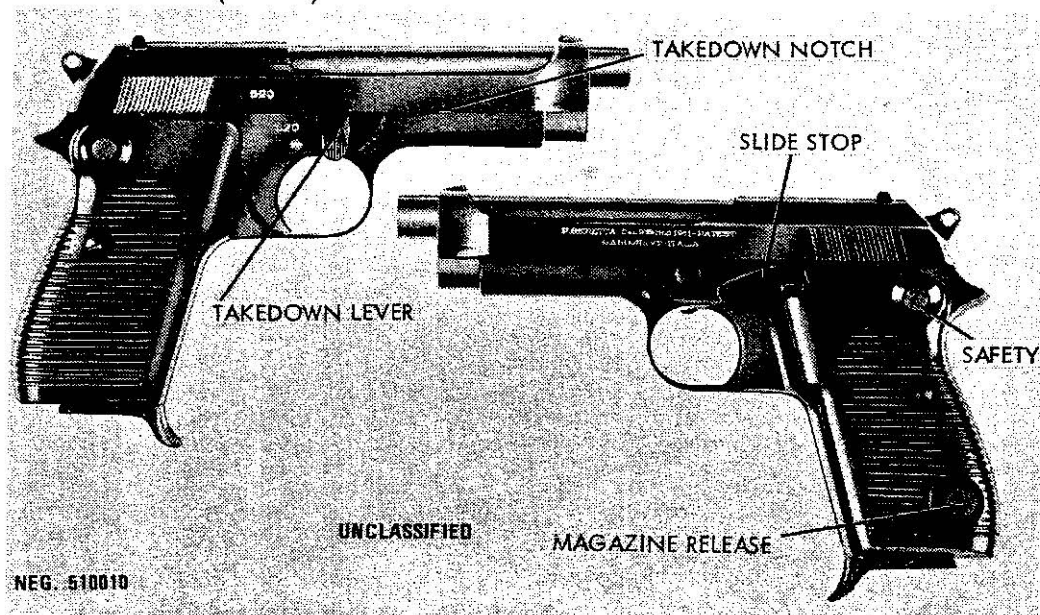
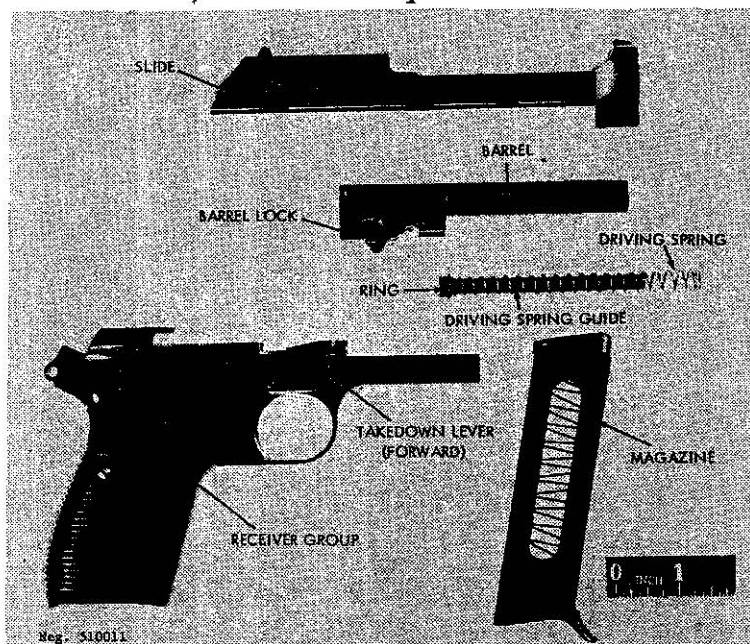
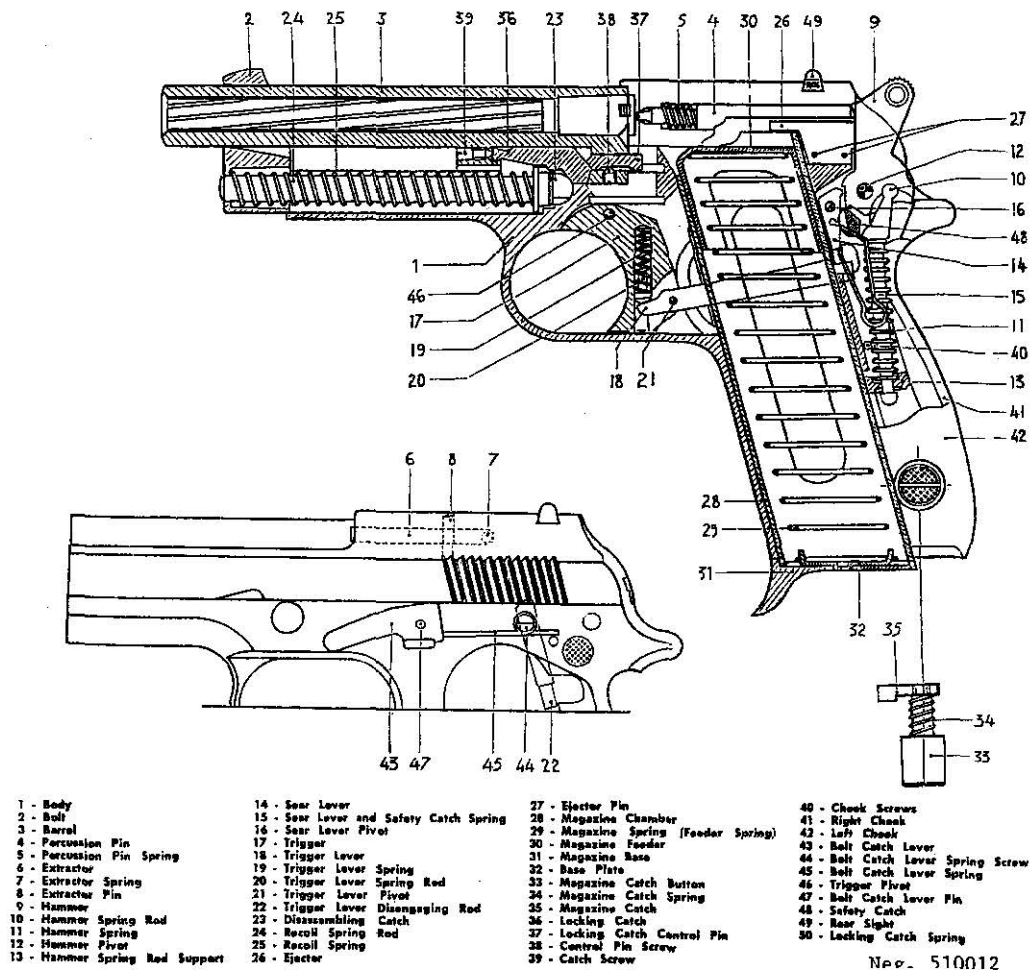

Figure 11. Beretta Model 1951 pistol.
Figure 12. Beretta Model 1951 disassembled.
Figure 13. Beretta Model 1951 section.
The Italian Beretta 9-mm Model 1951 pistol is the standard side arm of the Italian armed forces and has been sold to several other nations. It is a lightweight, recoil-operated, semiautomatic weapon of conventional design (fig 11). The Beretta M1951 fires 9x19-mm ammunition (sec V).
- a. Remove the magazine by pressing the magazine release (fig 11) in the lower left grip and remove the magazine. Load the
c. To render the pistol safe, press the safety, located in the top rear of the grip (fig 11), from right to left. As an alternative, the hammer can be pulled back by the thumb, the trigger pressed, and the hammer eased forward. CAUTION: Point pistol in a safe direction when doing the latter. The pistol is safe when the hammer is down, because the inertia-type firing pin does not touch the primer. The firing pin requires a sharp blow to impart sufficient inertia to it to fire the primer.
d. To fire, either cock the hammer manually or press the safety (fig 11) to the right. Aim—using a conventional sight picture—and press the trigger. The pistol will fire one shot and reload itself. To fire another shot, release and repress the trigger. When the last round in the magazine is fired, the slide will remain back.
e. Remove the magazine by pressing in the magazine release and withdrawing the magazine. The slide can be closed by either manually depressing the slide stop (fig 11) or by pulling the slide slightly rearward and releasing it. Hold the hammer, press the trigger, and ease the hammer home.
a. Clear the pistol (para 16f), but do not insert the magazine or lower the hammer. Hold the pistol in the left hand and with the right hand, push the slide rearward until the takedown lever (fig 11) aligns with the takedown notch in the slide (fig 11). Hold the slide in place with the left index finger (fig 12). Rotate the takedown lever forward. Ease the slide forward, then pull it forward off the receiver.
b. Press the driving spring guide (fig 12) forward to disengage it, then ease it up and rearward and remove it. With the slide inverted, press forward on the unlocking plunger until the barrel just starts to move forward. Lift the rear end of the barrel out of the slide, then pull the barrel rearward out of the slide. Further disassembly is neither required nor desirable.
c. To reassemble the pistol, first insert the barrel into the slide, inserting the muzzle through the hole in the front of the slide. With the slide inverted, push the barrel slowly forward until it drops into the slide; press down on the barrel lock (fig 12) and move the barrel slightly rearward. Insert the driving spring into its housing in the front of the slide. Press the driving spring guide (fig 12) forward, slightly compressing the driving spring, until the large ring on the guide can be seated in its recess on the lock (fig 13).
b. When the hammer is cocked and the trigger is pressed, the trigger bar moves rearward and contacts the sear (fig 13). Continued movement of the trigger bar causes the sear to rotate on its pin and the upper end of the sear disengages from the hammer (fig 13). The hammer spring then drives the hammer against the firing pin, firing the cartridge.
c. Upon firing, the barrel and slide, locked together, recoil rearward. After moving a short distance, the unlocking plunger on the barrel (fig 13) strikes a shoulder of the receiver and stops. The barrel and lock continue rearward, and the now stationary unlocking plunger forces the lock down, releasing the barrel from the slide. The slide, because of its inertia, continues rearward, rocking the hammer rearward and compressing the driving spring.
d. As the slide recoils, the disconnector (fig 13) is forced down by a cam cut into the slide. The disconnector, whose bottom end rests on the trigger bar, forces the trigger bar down, out of engagement with the sear. The sear, powered by its spring, snaps back against the hammer (fig 13).
e. The slide, continuing rearward, pulls the fired cartridge case from the chamber by means of the extractor. The extractor holds the case against the slide until the fixed ejector (fig 13)
f. The driving spring (fig 13) now expands and drives the slide forward. The feed rib on the slide drives a cartridge from the magazine into the barrel. As the slide nears its most forward position, it strikes the barrel and drives it forward. The lock rides up a cam in the receiver (fig 13) and locks the barrel to the slide. Forward motion stops when the barrel strikes the takedown lever shaft (fig 13).
i. The sliding safety (fig 13) blocks the sear when pressed to the safe position. When the safety is pressed to the fire position, cutaway sections on the safety allow the sear to move and release the hammer.